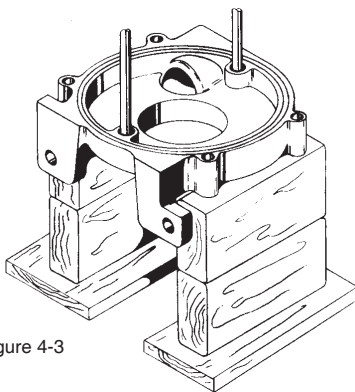

Figure 4-3
5. Wood blocks as shown in Figure 4-3
3. It is recommended that the assembly be placed on blocks in a vertical position as shown.(refer to figure 4-3)